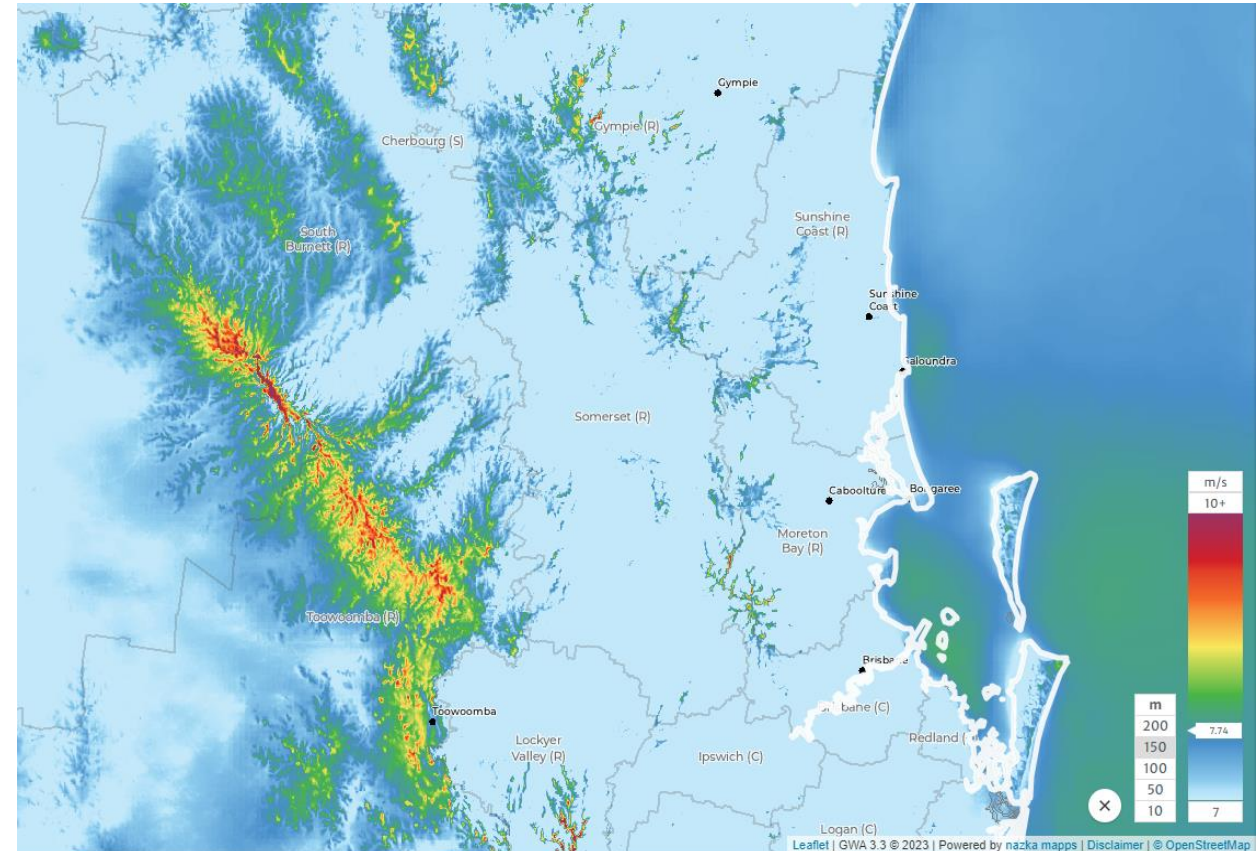

Figure 1: Average Wind Speed @150m
- *Figure 1* shows wind speeds at 150 metres in height, corresponding to the hub-height of the average wind turbine